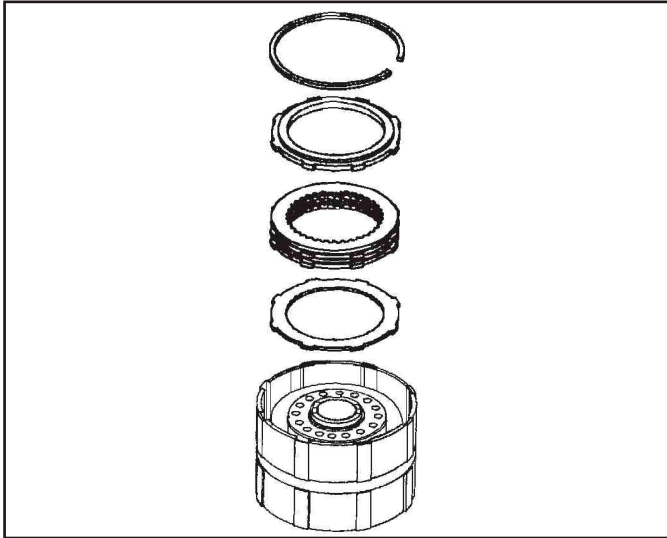

Figure 101
- Flip the 2/3 clutch drum housing over and remove the backing plate snap ring, the backing plate, the single sided clutch plates and clutch apply plate (See Figure 101).